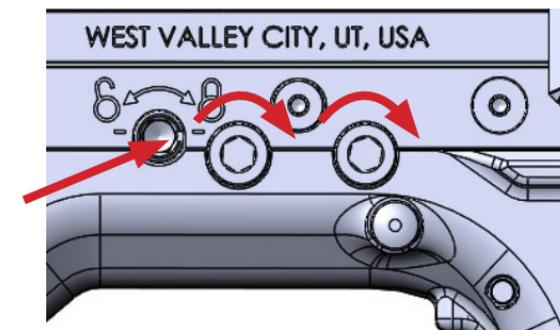

Fig. a-7
- Rotate the rifle to the left side. Using the 5mm hex wrench side of the multi-tool, rotate the barrel lock screw to the "Locked" position. (Fig. a-7)
- Tighten and torque the two 5mm barrel retention screws to 80 in/lb. (Fig. a-7)